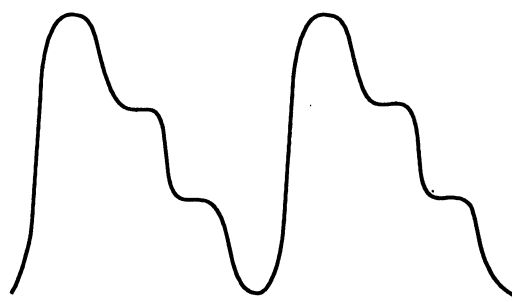

Figure 26. Inverting Receiver: RDM to Transmitter Polarity Inversion
- If it looks like Figure 26, there has been an inversion between the RDM and the simulcast transmitter. Check the connection at point C (in Figure 26) for crossed wires and repeat steps 1 through 7.
- If it looks like Figure 27, there has been an inversion between the PS-FRED module and the RDM. Check the connections at points A and B (in Figure 26) for crossed wires and repeat steps 1 through 7.